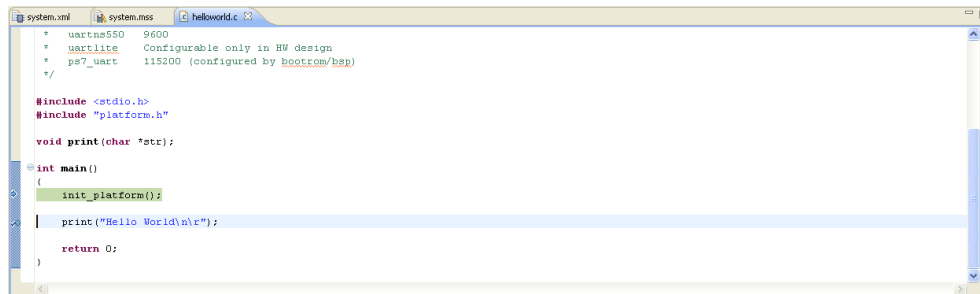

Figure 47: Add a Breakpoint
3. Double click on the left pane of line 43, which adds a breakpoint on that line of source code (Figure 47).